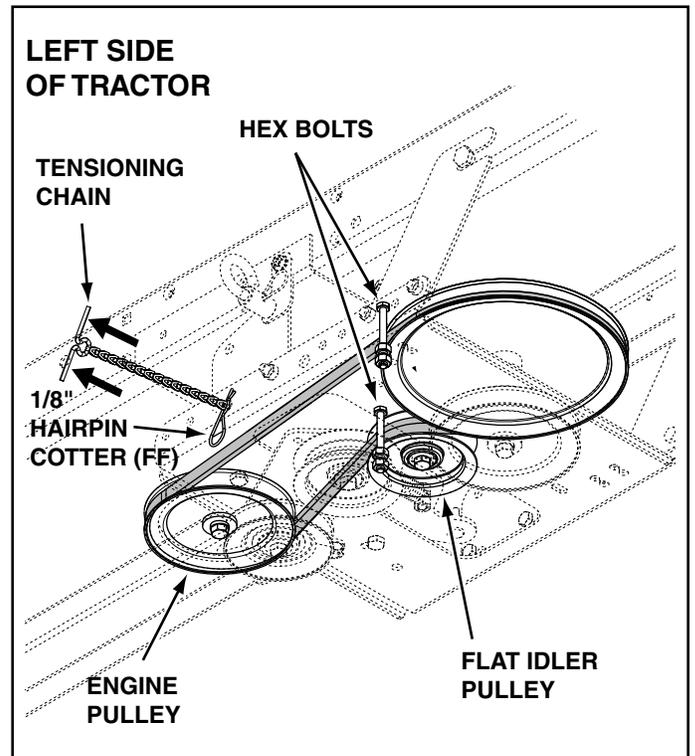

FIGURE 19 VIEWED FROM UNDERNEATH
STEP 20: (SEE FIGURE 19)
- Place tension on the belt by pulling the left side tensioning chain out as far as the 3/32" hairpin cotter (GG) that was installed in the chain in step 15 will allow. Secure the chain in this position by inserting a 1/8" hairpin cotter (FF) through the chain.